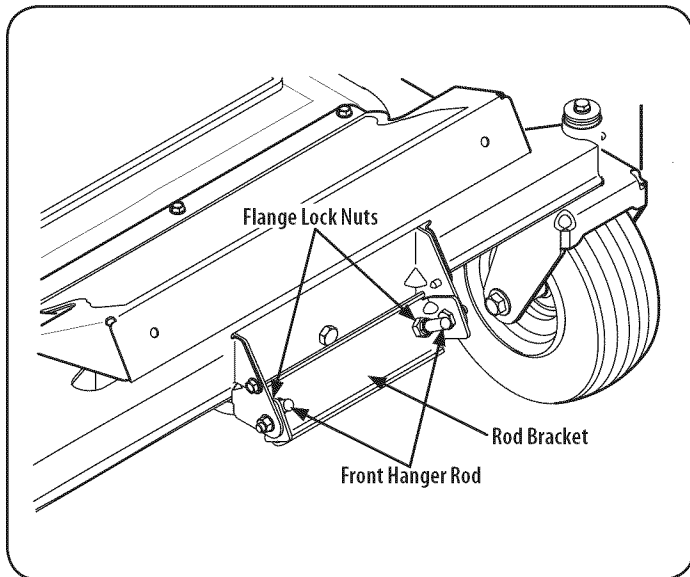

Figure 37
- If the front of the deck was too low, turn the flange lock nuts clockwise against the hanger bracket to shorten the front hanger rod and raise the front of the deck. Refer to Figure 37.